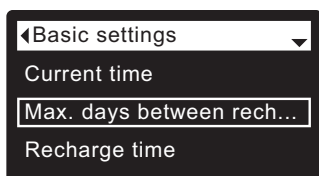

FIG. 47
3. Press the SELECT (O) button to display the Basic settings menu (See Figure 47).
7. Press the SELECT (O) button. The display will go back to the Basic settings menu (Figure 47).